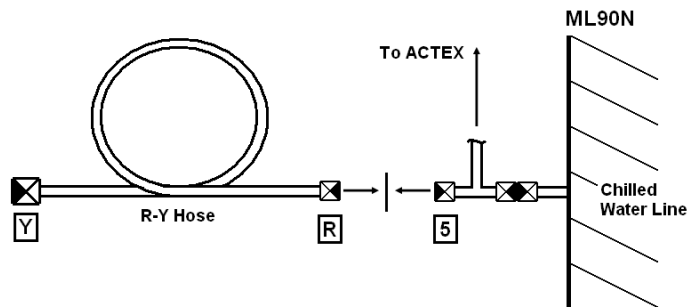

Figure 10-6.- R-Y Hose connection at ML90N.
2. Connect red end of R-Y Hose to free end of tee attached to Chilled Water Line QD (#5) at QD bracket (see fig 10-6)